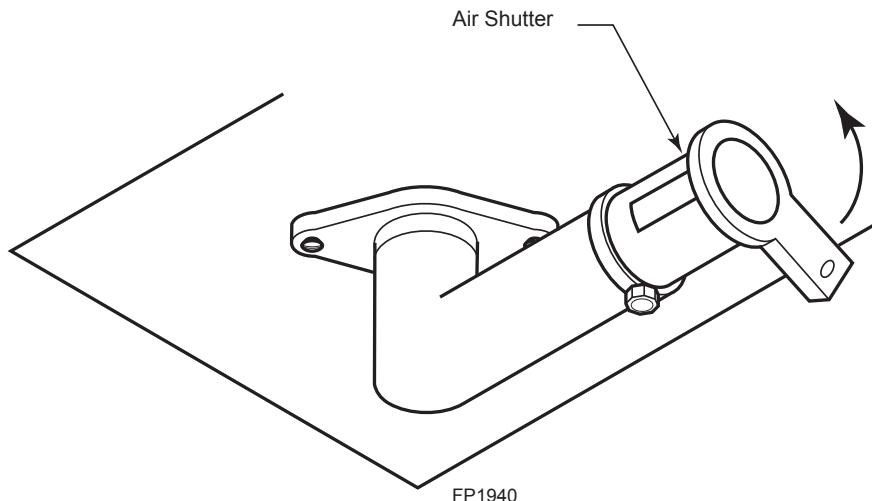

Figure 36 -
- To increase air mixture, open the shutter more. This will reduce soot formation. *Figure 36*